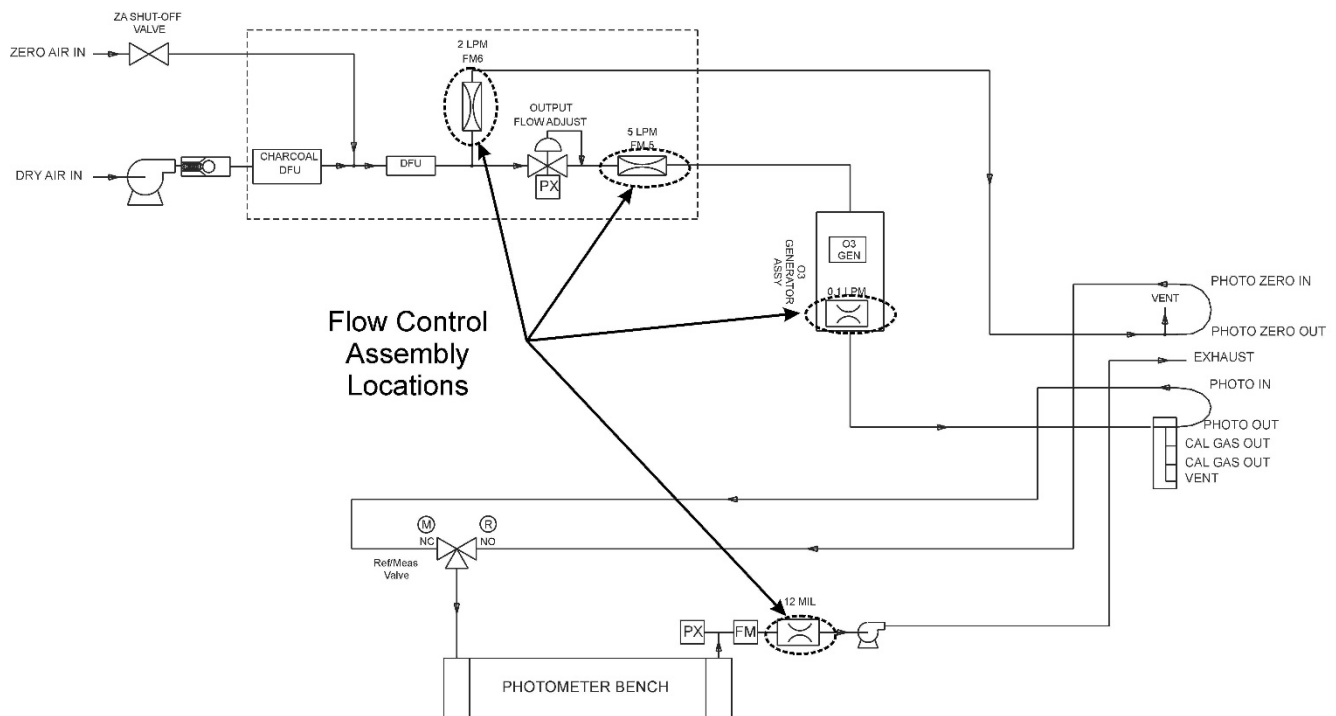
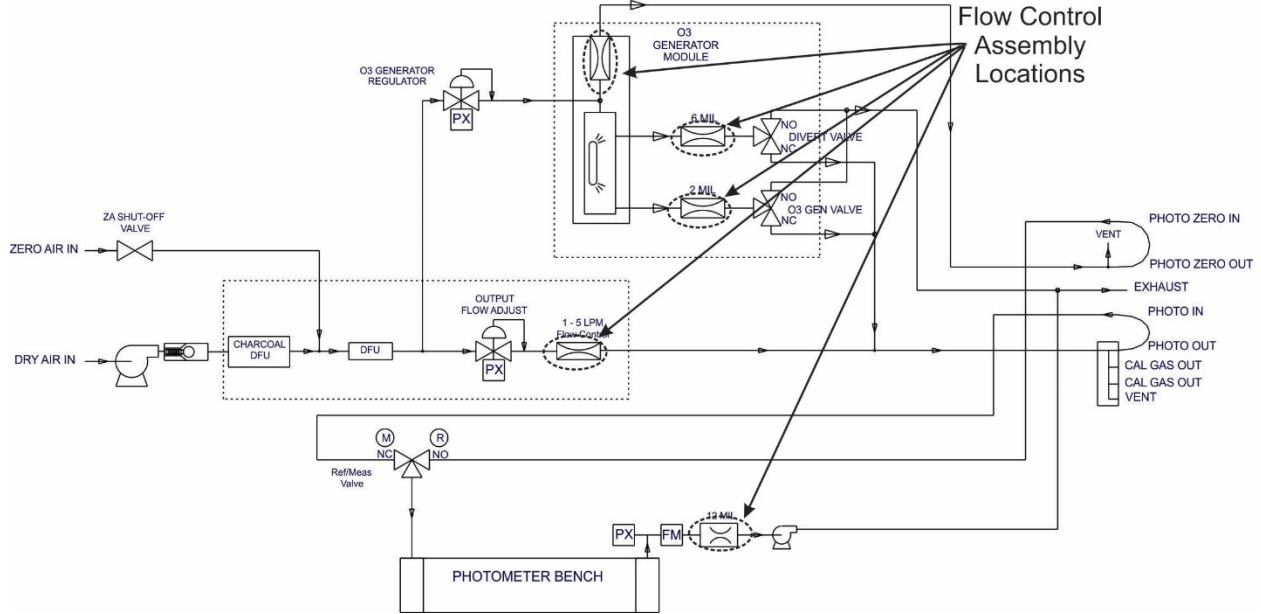

Figure 7-5. Location of Gas Flow Control Assemblies - T703
Figure 7-6. Location of Gas Flow Control Assemblies - T703U
2. Locate the assembly to be repaired, see Figure 7-5 (T703) or Figure 7-6 (T703U).